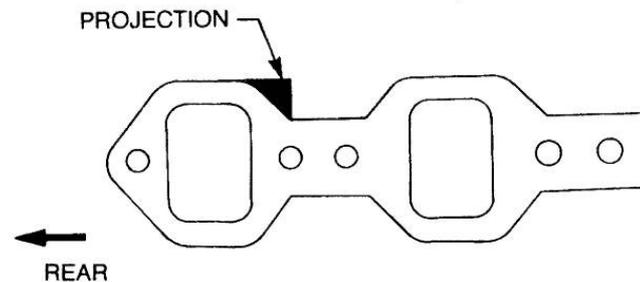

Figure 25 Installation of the Inlet Manifold Gasket
- e. Position a new inlet manifold gasket on the cylinder head with the gasket projection uppermost and toward the rear of the engine (Figure 25).